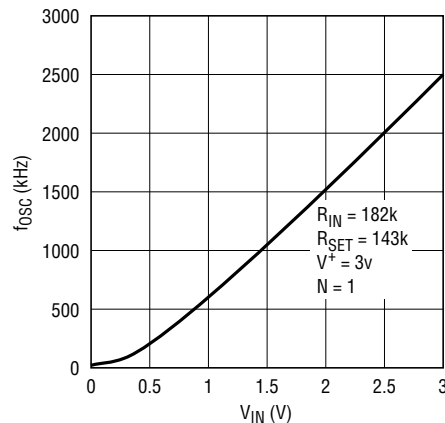

Figure 11. Output Frequency vs Input Voltage
Equation (2) yields  $R_{IN}/R_{SET} = 1.273$  and Equation (3) yields  $R_{SET} = 142.8\text{k}$ .  $R_{IN} = 1.273R_{SET} = 181.8\text{k}$ . For standard resistor values, use  $R_{SET} = 143\text{k}$  (1%) and  $R_{IN} = 182\text{k}$  (1%). Figure 11 shows the measured  $f_{OSC}$  vs  $V_{IN}$ . For  $V_{IN}$  higher than 1.5V, the VCO is quite linear; nonlinearities occur when  $V_{IN}$  becomes smaller than 1V, although the VCO remains monotonic.